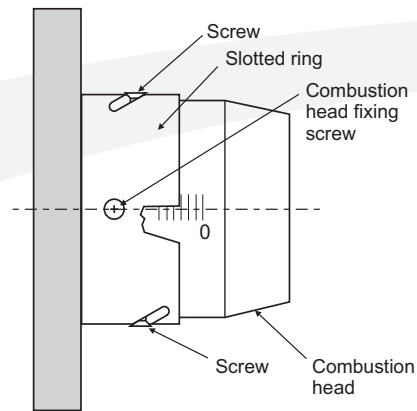

Figure 11-9: 46/58, 58/70 head settings
8. To adjust the head setting, refer to Figure 11-9 and proceed as follows: Loosen the two screws in the slotted ring - **not** the two fixing screws, and turn the blast tube until '0' or the 4th line lines up with the edge of the slotted ring (see paragraph 7 above). Tighten the two screws.